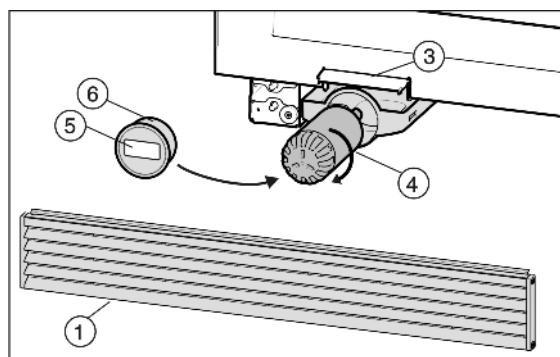

Fig. 7
- ▶ Write the date of the next filter replacement on the supplied adhesive label *Fig. 7 (5)* and affix it to the filter cover *Fig. 7 (6)*.
- ▶ Push in the water filter carriage *Fig. 7 (4)*.
- ▶ Close the filter change flap *Fig. 7 (3)*.
- ▶ Fit the ventilation grid *Fig. 7 (1)* again and push down. It must close flush with the floor.
- ▶ Insert the new filter *Fig. 7 (4)* and turn it about 100° clockwise as far as it will go.
- ▶ Place the cover *Fig. 7 (6)* on the filter.